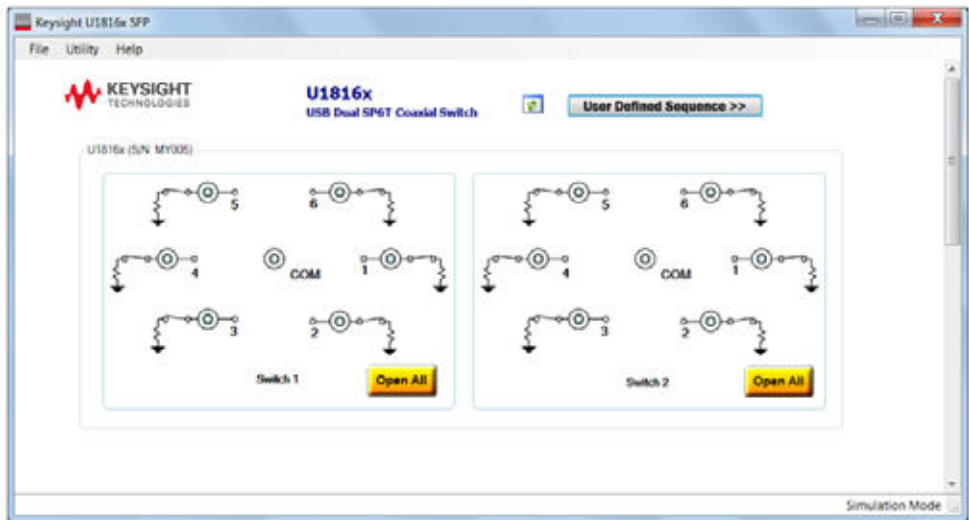
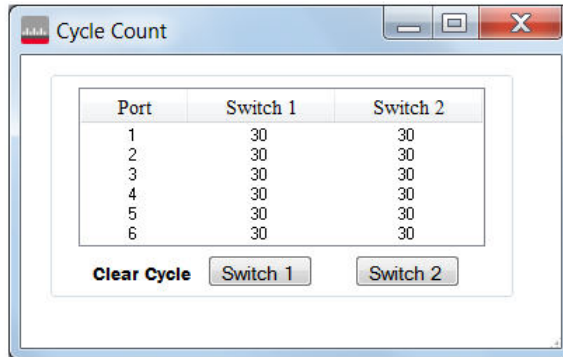
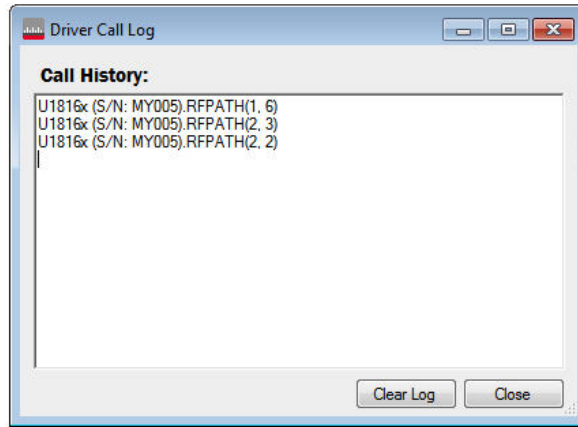

Figure 4-4 U1816A/C/E/F main SFP interface
Figure 4-6 Cycle Count window
Figure 4-7 Driver Call Log window
- On the U1816A/C/E/F main SFP interface as shown in Figure 4-4, click any port from 1 to 6 to make a connection with the common (COM) port. To disconnect all ports, click **Open All**.
- On the main SFP interface as shown in Figure 4-4, click **Utility > Cycle Count** from the menu bar to open the Cycle Count window as shown in Figure 4-6.
- On the main SFP interface shown in Figure 4-4, click **Utility > Reset** from the menu bar to reset all U1816A/C/E/F switch ports to the open state.
- On the main SFP interface shown in Figure 4-4, click **Utility > Driver Call Log** from the menu bar to open the Driver Call Log window as shown in Figure 4-7.